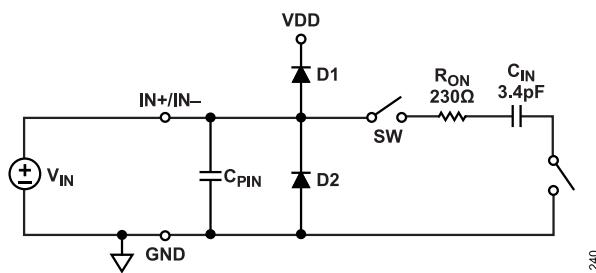

Figure 40. Equivalent Analog Input Circuit
Figure 40 shows an equivalent circuit for each of the AD4060 analog inputs (IN+ and IN-). The analog inputs are modeled as a switched capacitive load. During the acquisition phase, the sampling switch (SW) connects each input pin to the 3.4pF sampling capacitor (C_{IN}) in series with the 230 Ω switch on resistance (R_{ON}). During the conversion phase, SW disconnects to sample the voltages on the IN+ and IN- pins onto the sampling capacitors. D1 and D2 represent the ESD diodes from the IN+ and IN- pins to the VDD supply and GND, respectively. C_{PIN} represents the pin capacitance of each input pin to GND and is typically 2pF.